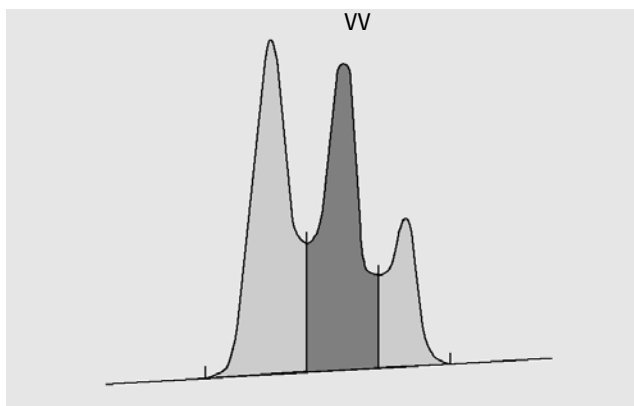

Figure 20 Area Measurement for Valley-to-Valley Peaks
- for valley-to-valley (VV) peaks, the area above the baseline, segmented with vertical dropped lines from the valley points, as in Figure 20 on page 47,